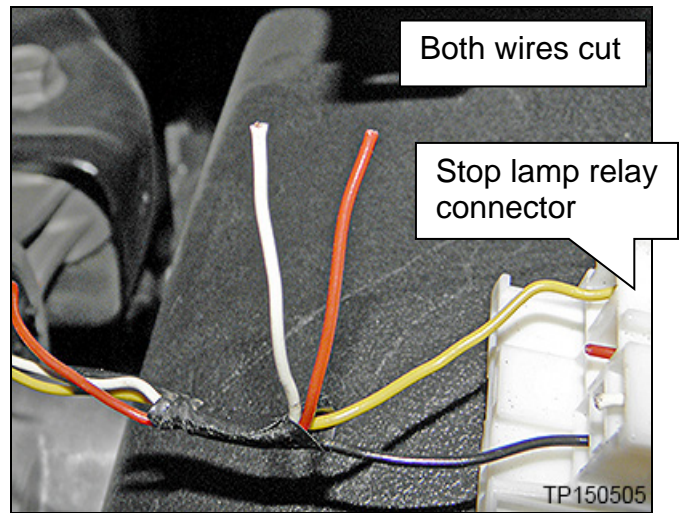

Figure 6
8. Cut the red and white wires of the stop lamp relay connector (Figure 6).